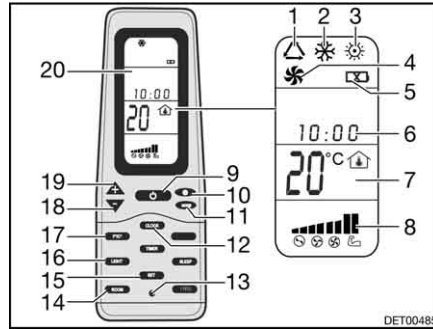

Fig. 176 Remote control
- Press the ON/OFF button (Fig. 176,9).
- Press the "Mode" button (Fig. 176,11) as often as required until the required mode (Fig. 176,1, 2, 3 or 4) is indicated on the display (Fig. 176,20).
- Use the "+" (Fig. 176,19) and "-" (Fig. 176,18) buttons to set the desired temperature.
- Use the fan speed button (Fig. 176,10) to select the desired fan level.